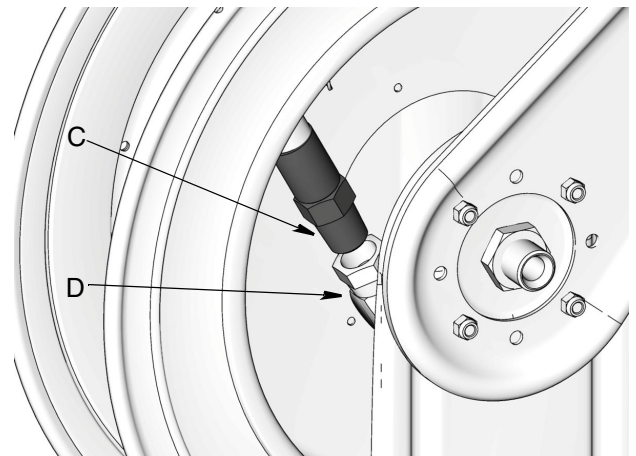

FIG. 5
5. Disconnect hose fitting (C) from swivel (D) (FIG. 5) and completely remove the hose from reel.
- a. Insert screws (aa) through hose stop (A).
7. Run the hose fitting end of hose (C), through the hose guide (E) and attach the new hose to the hose reel swivel (D) (FIG. 5).